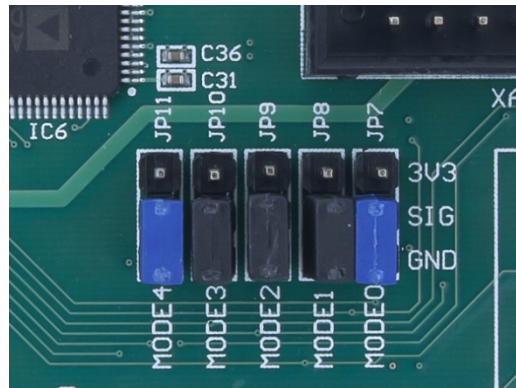

Figure 5-2: Jumper Settings to boot in JTAG mode
- a. Ensure that the jumpers JP7-JP11 are set as shown in Figure 5-2: Jumper Settings to boot in JTAG mode: